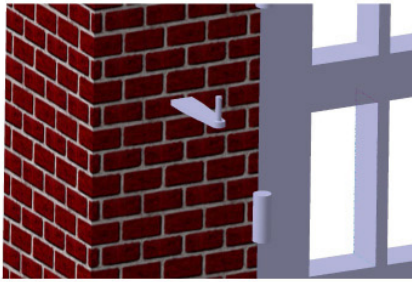
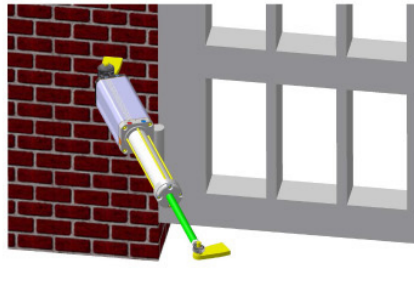
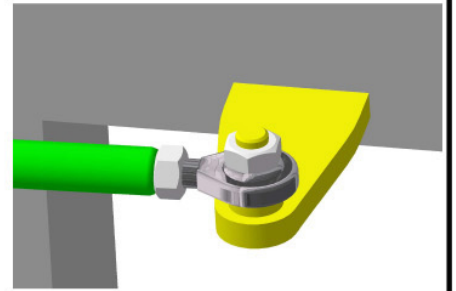

Fig.2
Fig.3
Fig.4
- 3) Shorten or lengthen the gate support according to the dimensions for C shown in the table on page 3. Connect the iS320 opener to the gate support, with the rod completely extended (**Fig.2 Page 5**) and with the swivel joint nut fully tightened (**Fig.3 Page 5**). Once this has been done use a spirit level (**Fig.4 Page 5**) to mark the position of the gate support on the gate. Dismantle the gate support and fix it to the gate using the markings previously made.
- 4) Mount the motor and unscrew the swivel joint nut three turns to ensure closure. Attach the security ring and the safety bolt supplied. (**Fig.3 Page 5**).